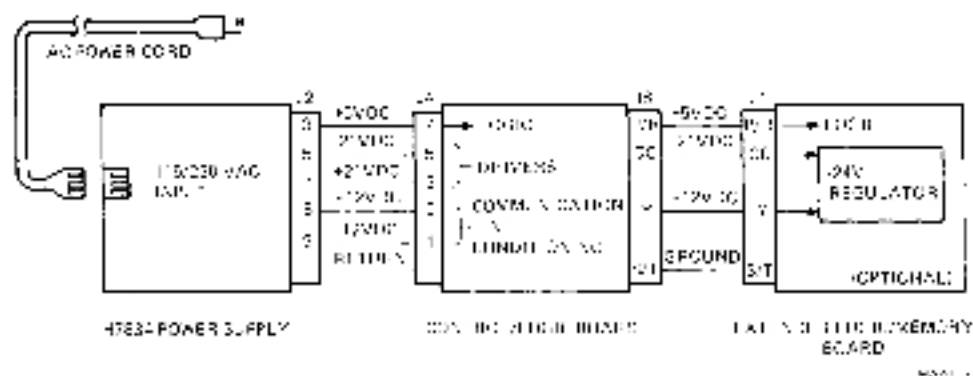

Figure 5-20 DECwriter IV Power Distribution
5.4.6.1 Power Distribution – Power is distributed through the terminal as shown in Figure 5-20. Line voltage (115/230 Vac) enters the supply through a detachable power cord. The supply transforms line voltage into five direct current voltages; +5, +12, -12, +21, and -21 Vdc. The dc power exits the supply at connector J2, is conducted across an 8-wire cable, and enters the control/logic board via J4.